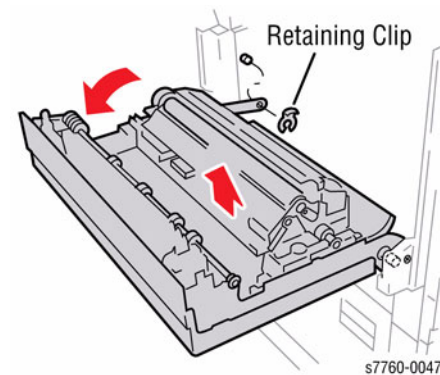

Figure 2 Removing Left Cover Assembly
6. Removing the Left Cover Assembly (Figure 2).